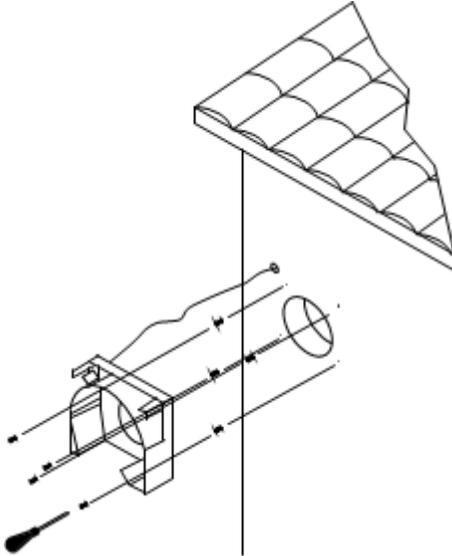

Fig 5
3. Attach the motor back plate to the wall using the plugs and screws provided and feed the cable through the cable entry hole (Fig 5).